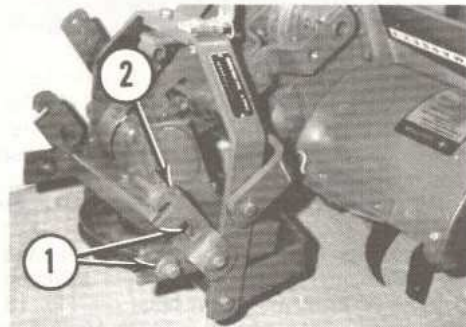
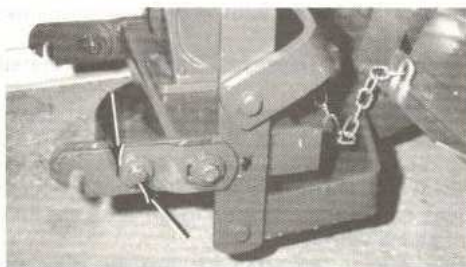

FIG. 18
FIG. 19
The Tiller's lower links (1) will be positioned, as shown in Fig. 18, to facilitate shipping.
Remove front mounting bolts (2), Fig. 18, and position links, as shown in Fig. 19. Adjust link to center mounting bolts in slots. Be sure that heavy belville cup washers are positioned as shown, with sharp edges against slotted strap.
5. Check alignment of Tiller to Tractor. Measure distance between Tiller and Tractor rear tires. This distance must be equal on both sides. Tiller must also be level with Tractor. To adjust, loosen lower link mounting bolts, Fig. 19, and adjust lower links accordingly.